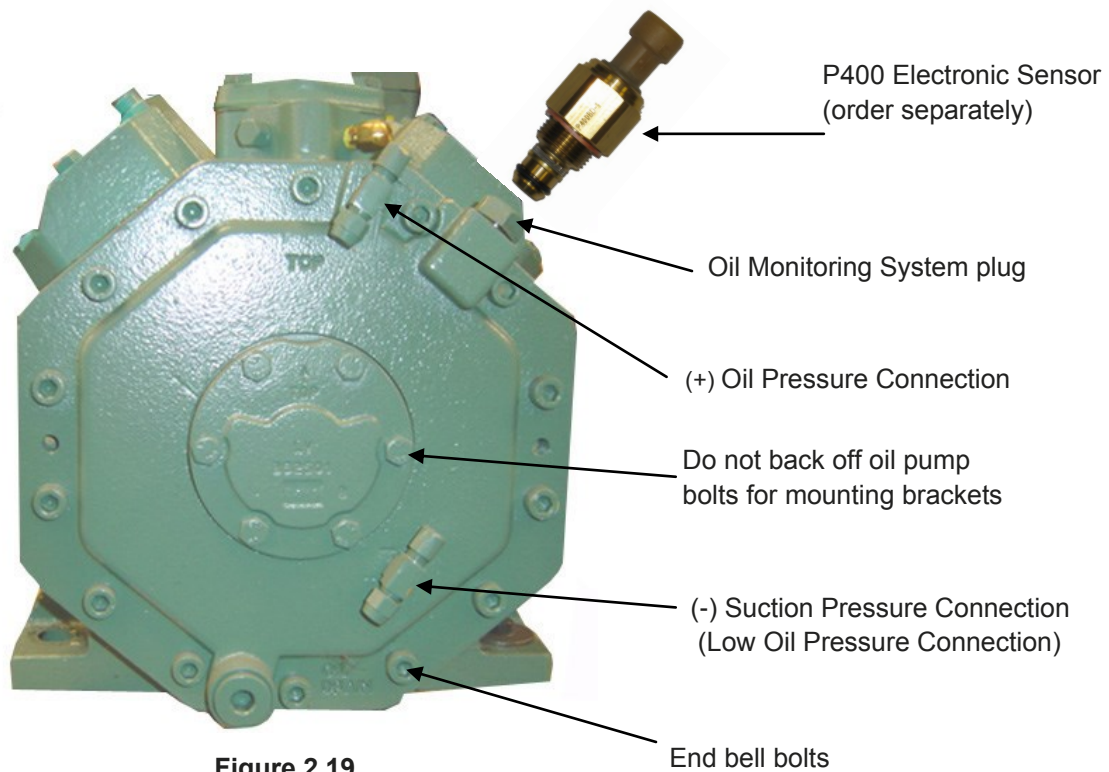

Figure 2.19
2. When using the Johnson electronic control P545-NCB25 the electronic sensor is connected as shown in Figure 2.19. If reusing the Sentronic ask for the P400 oil lube sensor PN 860-0002-01 and connect the Sentronic harness to the P400. For older versions of the Sentronic, use the new harness and wire directly into the Sentronic.
3. Mechanical oil safety control connects to the (+)(-) fittings shown in Figure 2.19.
5. Extension bolts (V) and nuts (W) have been included in the kit to help mount the oil safety controls. Remove a bolt from a cylinder head and replace with an extension bolt. (Torque to 60ft lb). Drill out hole on old mounting bracket and tighten to extension bolt using the M10 nut (W) provided. (Preferred method over using end bell bolts – Do not use oil pump bolts)